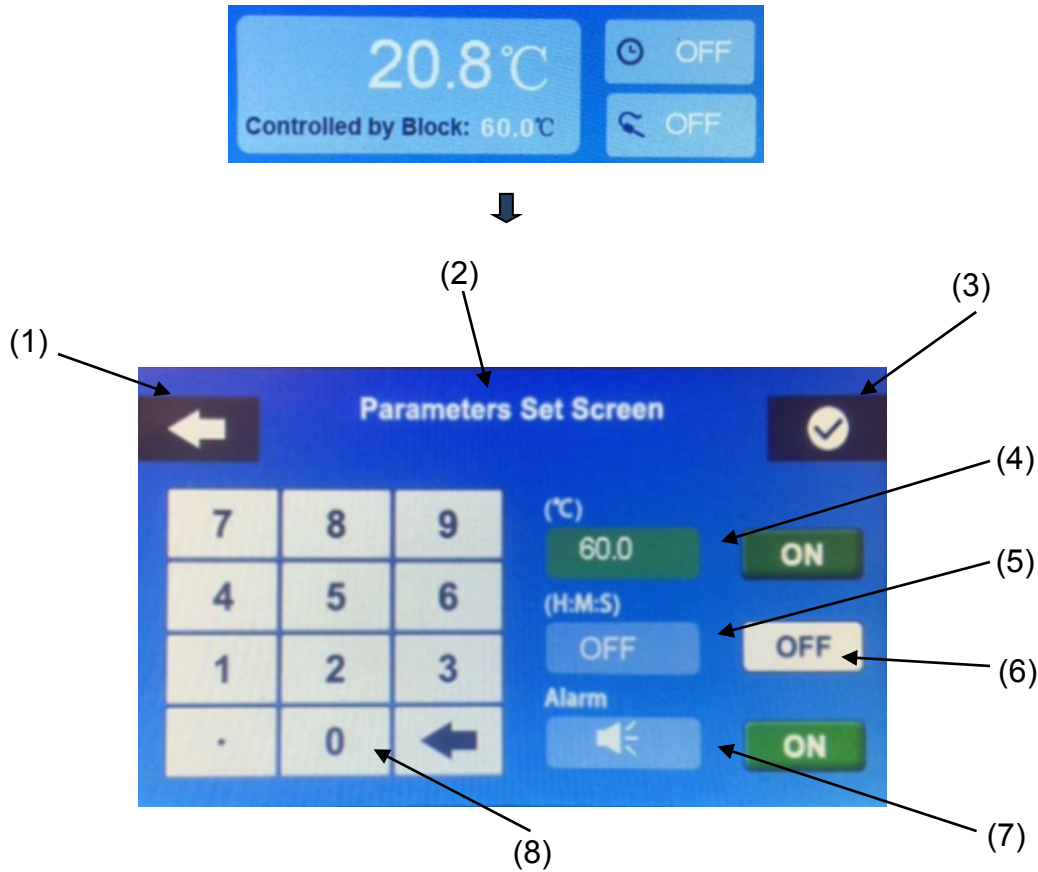

Figure 4
4.3 Home Screen Continued (Figure 4) – The home screen displays all operating parameters and allows for access to menus to configure the unit